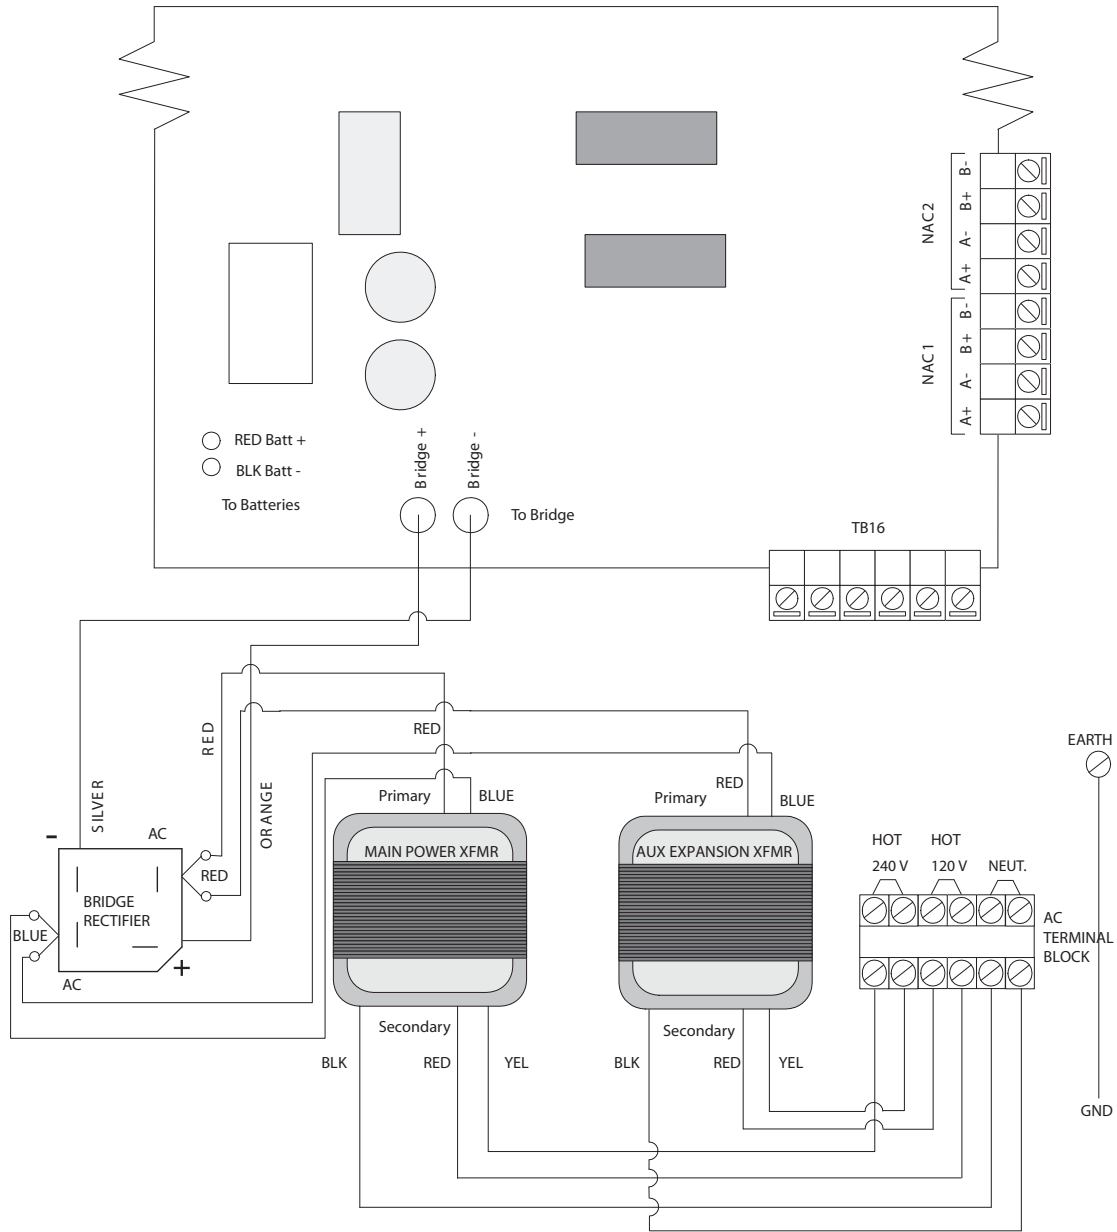

Figure 4 AC Power Wiring Diagram
- Attach AC wiring to the AC Terminal Block (see Figure 4 on page 17). Attach green ground wire to ground screw on backplate.